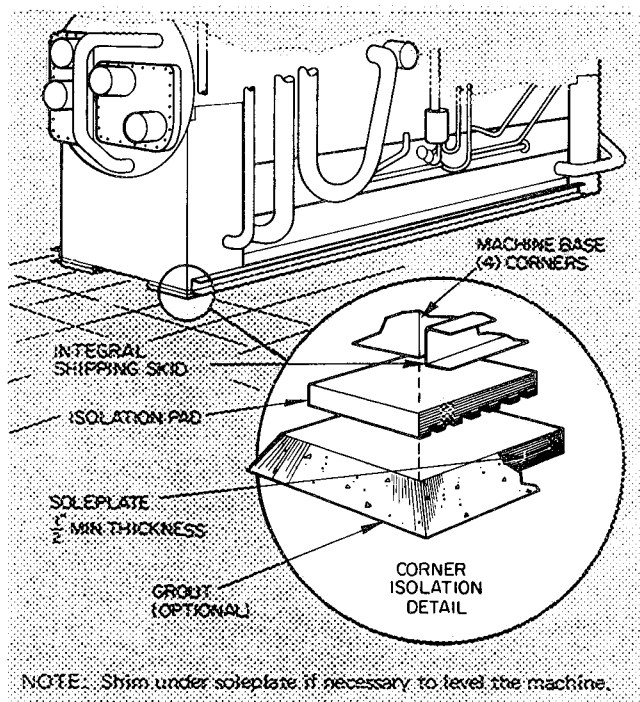

Fig. 10 – Typical Isolation Assembly
*Refer to Fig. 10 for location of hot surfaces.
The integral shipping skids, or base rails, are normally left on the machine. However, the base rails may be removed, if desired, *but not until the machine is in final position*. When isolation pads are used, they should be located under the corners of the machine, atop soleplates with 1/2-in. minimum thickness (see Fig. 10). The soleplate ensures machine contact on the floor only at the corners when base rails are left on. Shims may be inserted under the soleplates for leveling the machine. Grouting is optional.